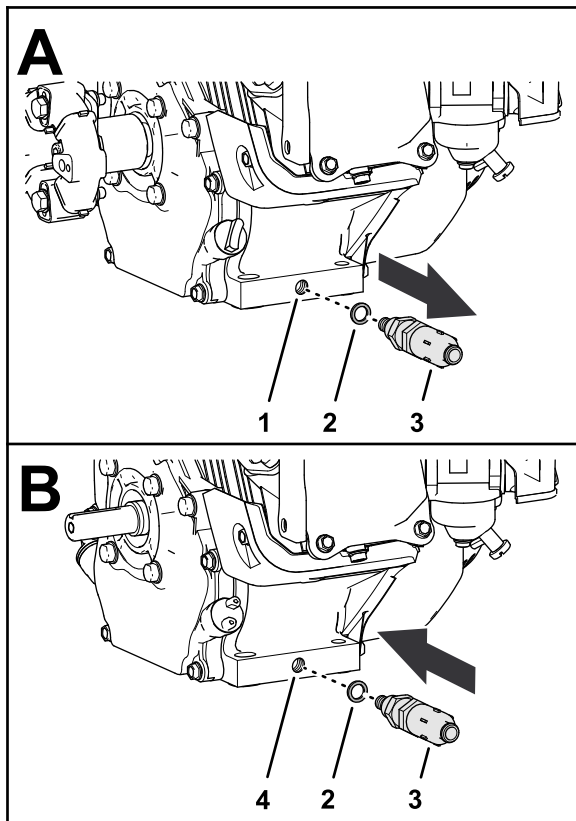

Figure 11
1. Remove the drain valve, adapter, and gasket from the old engine (Figure 11).
2. Install the drain valve, adapter, and gasket into the new engine (Figure 11).